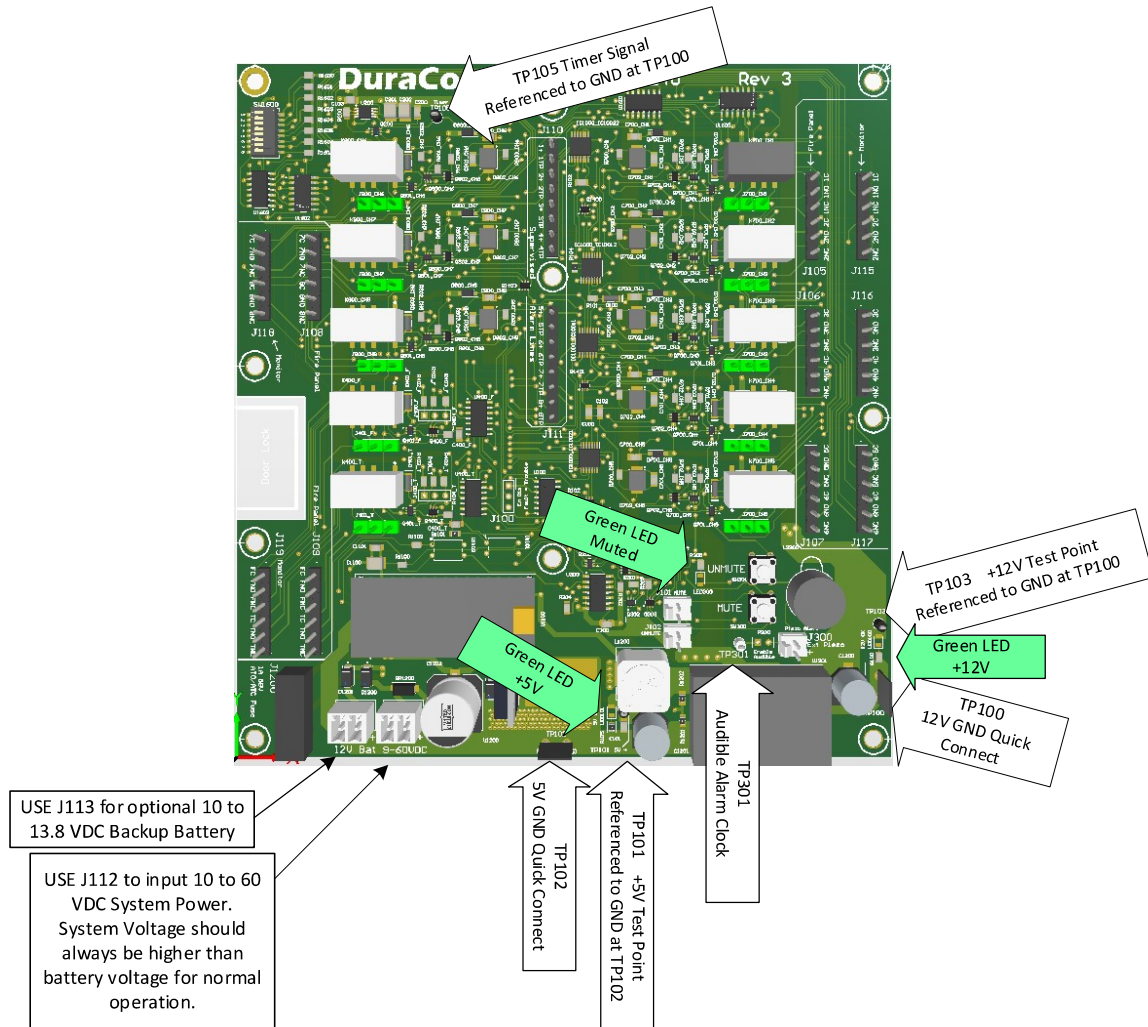

Figure 3: Test Points and LEDs
7. Apply Power to J112 (10-58VDC). Verify 5v and 12V power LEDs are on. See Figure 3
9. Remove Power from J112. See Figure 3.
12. Restore Power to J112. See Figure 3.
14. Test Each alarm circuit for closed and Open contacts to verify operating properly. RED alarm LED should flash ON and OFF approximately once per second when alarm is active. Audible alarm should sound for any non-green condition. Press MUTE Button when alarm is sounding to silence alarm for 24 hours (see Figure 10). Green LED next to UNMUTE button will turn on when audible alarm is muted (see Figure 3). Press UNMUTE to re-enable audible alarm. Correcting the alarm condition for all channels will also cancel the audible alarm. Each time MUTE is activated, the 24-hour UNMUTE is reset.